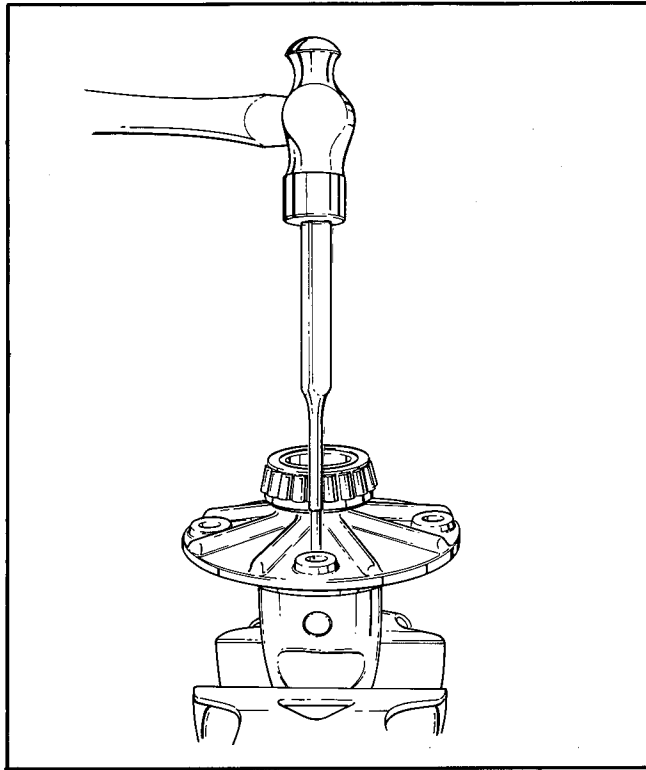

Figure 26A – Driving Out Lock Pin
- m. Drive out lock pin (9) which secures pinion mate shaft (14) to differential case (10), Figure 26A.